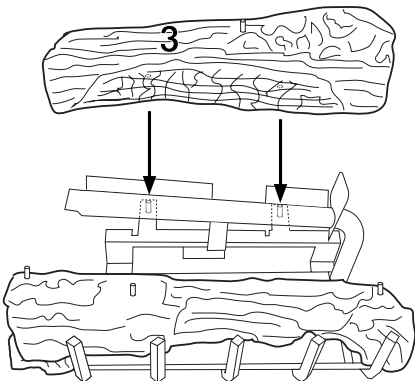

Figure 25 - Installing Log #3, Model CD42M-A
3. Place log #3 (rear log) onto pins on rear of grate (see Figure 25).